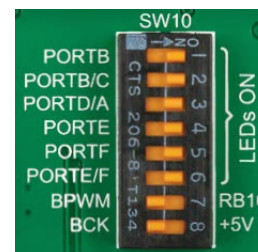

Figure 10-7: SW10.1 through SW10.6 switches are used to enable PORT LEDs
the current value specified by the manufacturer. The current varies from 0.2mA to 20mA, depending on the type of the LED and the manufacturer. The EasyPIC™ v7 for dsPIC30® board uses low-current LEDs with typical current consumption of 0.2mA or 0.3mA. Board contains 42 LEDs which can be used for visual indication of the logic state on PORT pins. An active LED indicates that a logic high (1) is present on the pin. In order to enable PORT LEDs, it is necessary to enable the corresponding DIP switch on **SW10** (**Figure 10-7**).